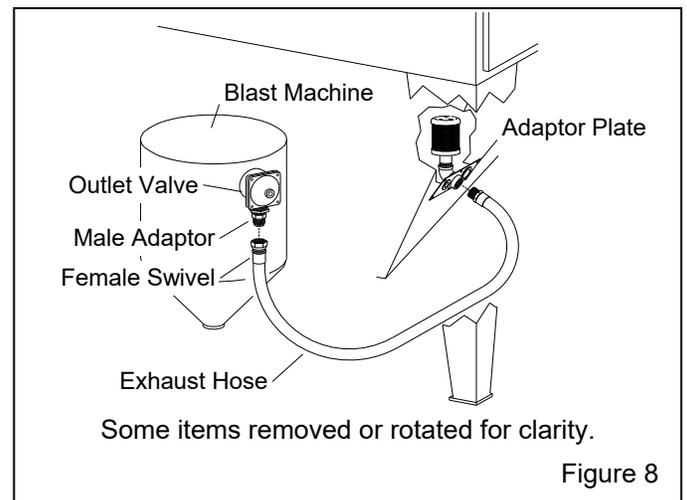

Figure 8
2.7 Attach Blast-Machine Exhaust Hose – Figure 8